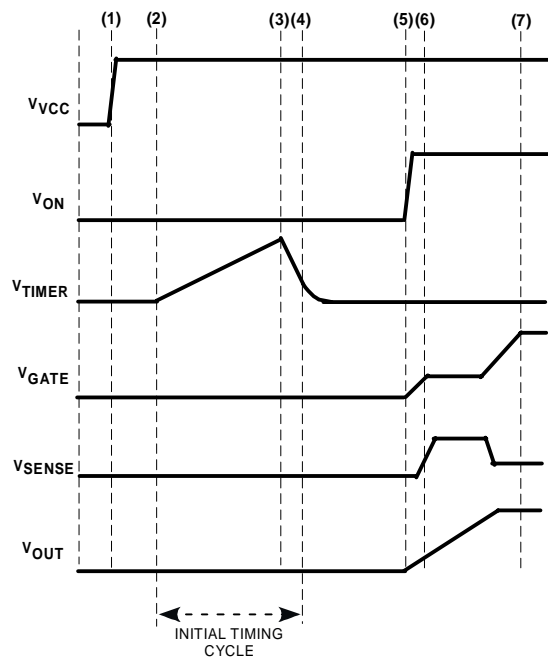

Figure 5. Start-up (ON asserts after power is applied)
gate is charged up with a 12  $\mu\text{A}$  current source. At timepoint (5) the threshold voltage of the FET is reached and the load current begins to flow. The FET is controlled to keep the sense voltage at 100 mV (this corresponds to a maximum load current level defined by the value of  $R_{\text{SENSE}}$ ). At timepoint (6)  $V_{\text{GATE}}$  and  $V_{\text{OUT}}$  have reached their full potential and the load current has settled to its nominal level. Figure 5 illustrates the situation where the ON pin is asserted after  $V_{\text{VCC}}$  is applied.